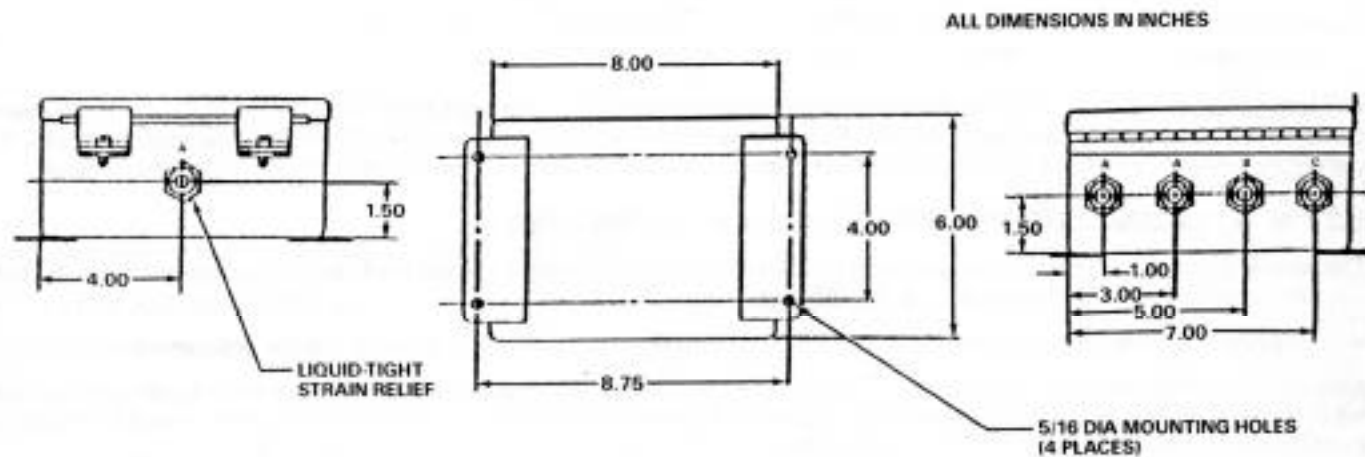

Figure 7-1. Dimensions
- DIMENSIONS:** refer to Figure 7-1